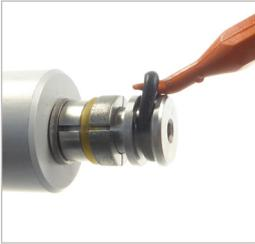

Figure 7
- ▶ Insert a suitable repair tool behind the front seal (Pos. 7) with the WEH® O-ring picker, part No. E98-101969, and unroll it out of the recess over the large diameter of the shaft (Pos. 8) (*Figure 7*).